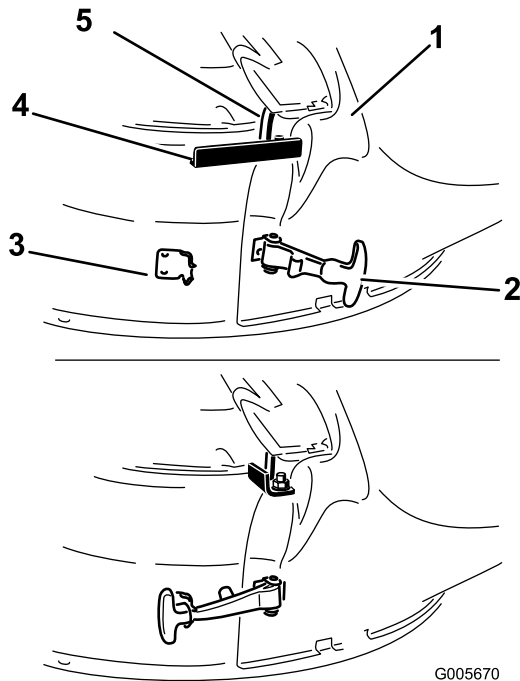

Figure 22
3. Secure the chute to the deck. Hook the flexible latch on the chute to the retaining clasp welded on the mower deck to the rear of the opening (Figure 22). Fasten the retaining hook around the pivot rod to secure the chute into position.